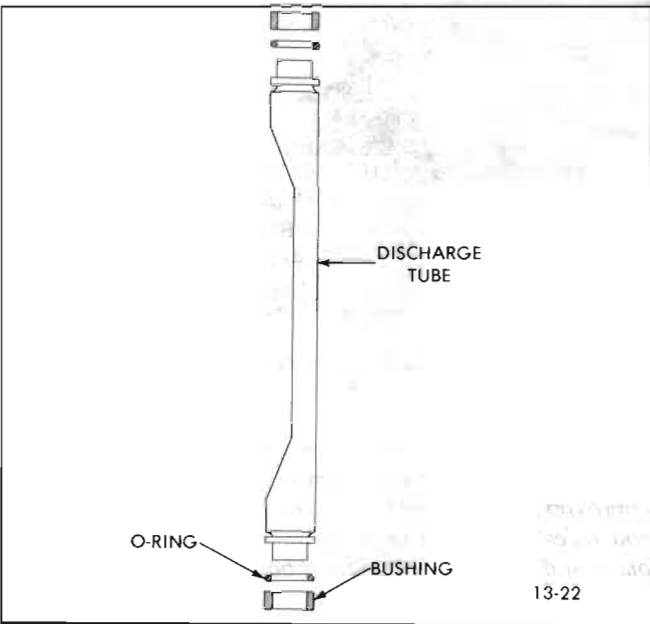

Figure 13-59 Service Replacement Discharge Tube
5. Obtain new service replacement discharge tube and assemble into front cylinder (see Figure 13-59).